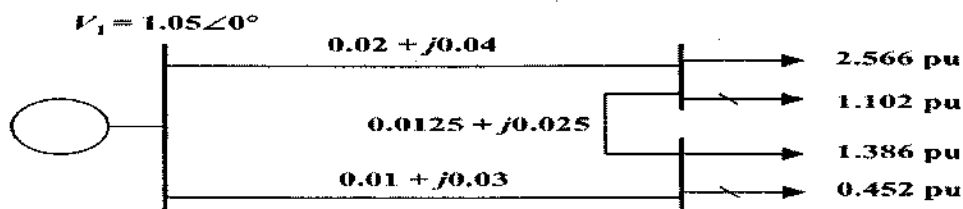

Fig. 2.A
A) Solve Gauss seidal method as shown Fig 2.A